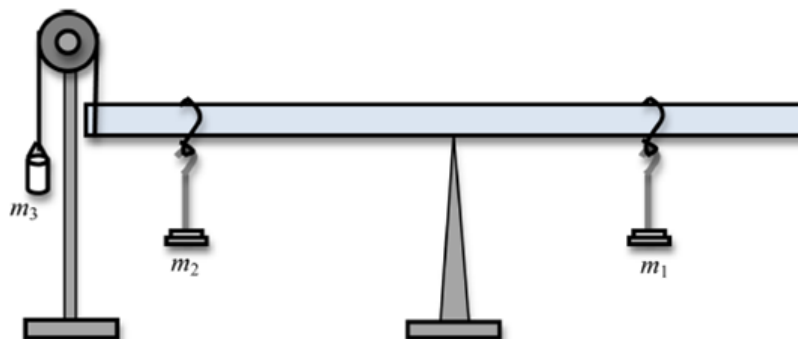

Figure 3
- 1 Position the center of gravity of the meterstick over the pivot hanger. Next, place a 50 gram mass, m_1 , on the hanger located at the 70.0 cm mark and a 80 gram mass, m_2 , on the hanger located at the 20.0 cm mark. Now loop the free end of the string tied to the bucket around the end of the meterstick at the 1.0 cm mark. Lastly, hang the bucket over the pulley as shown in the figures 3 and 4.